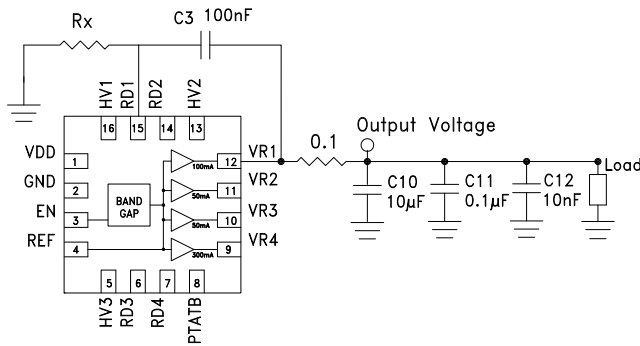

Figure 16. Recommended HMC1060LP3E configuration for supplying output voltage values greater than default. [4]
Other output voltages values that are greater than the default value are achieved by using an external resistor Rx as shown in Figure 16. Output configuration in Figure 16 supports both PTAT mode enabled and disabled.
- To set VR1 = 5 V in PTAT Mode, external resistance Rx = 40.3 kΩ shown in Figure 16 is required. Please note that for optimal temperature compensation, the 5 V level on VR1 can be achieved by connecting 5.7 kΩ (40.3 kΩ – R3) from HV1 pin to GND (see Output Configuration Table for more detail). This is due to the fact that the internal resistors of the HMC1060LP3E have a temperature coefficient of +270 ppm/°C. When the default output voltage is modified by using an external resistor with a different temperature coefficient, the temperature behavior of the respective output will differ from this specification, although the difference will likely be insignificant.